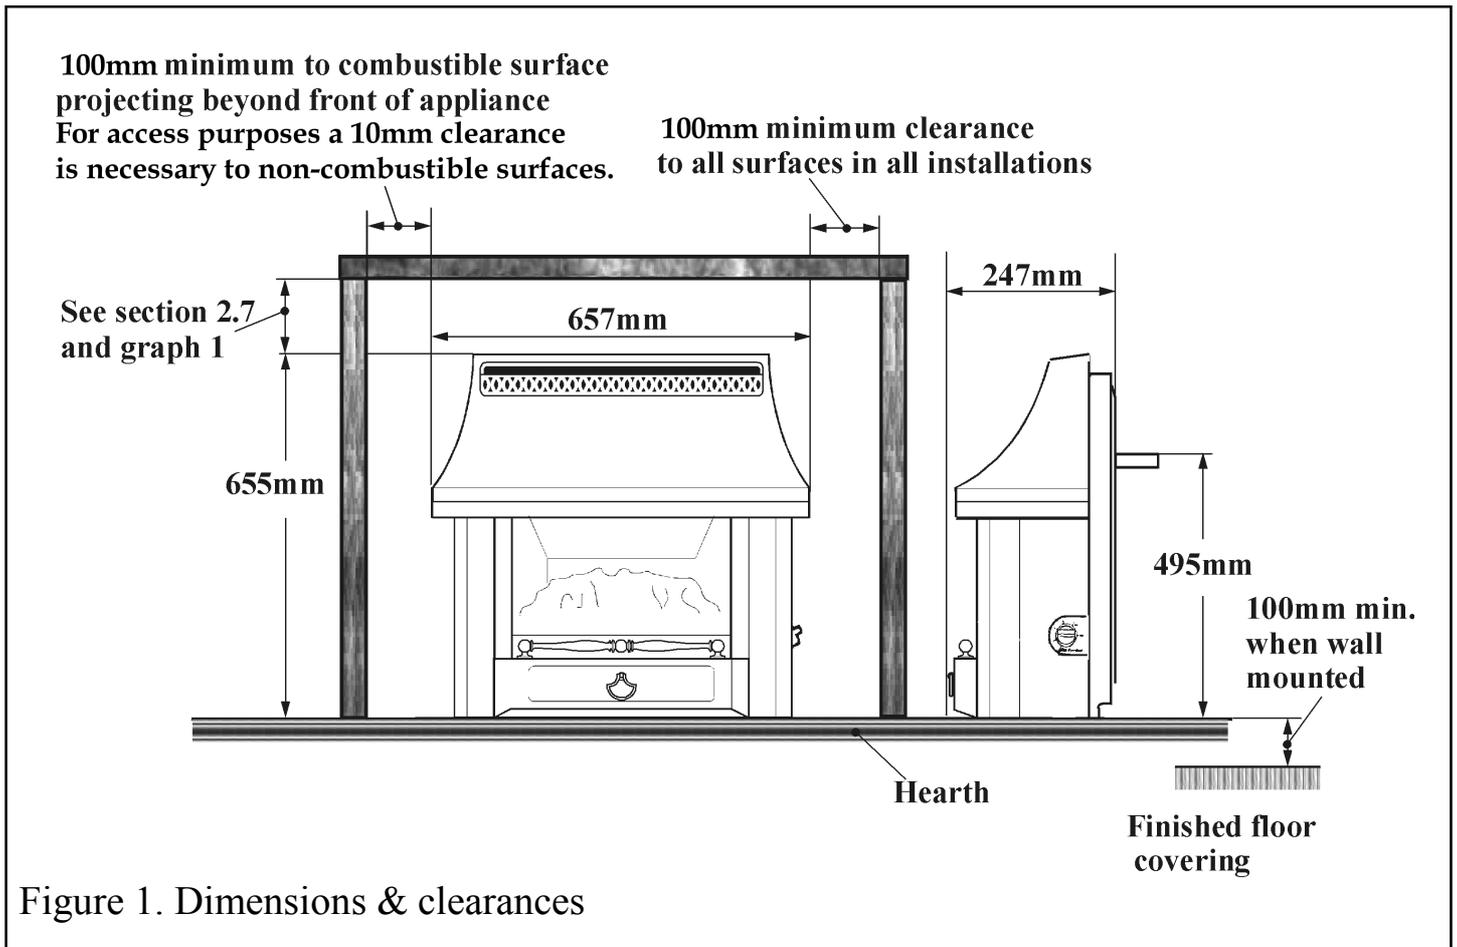
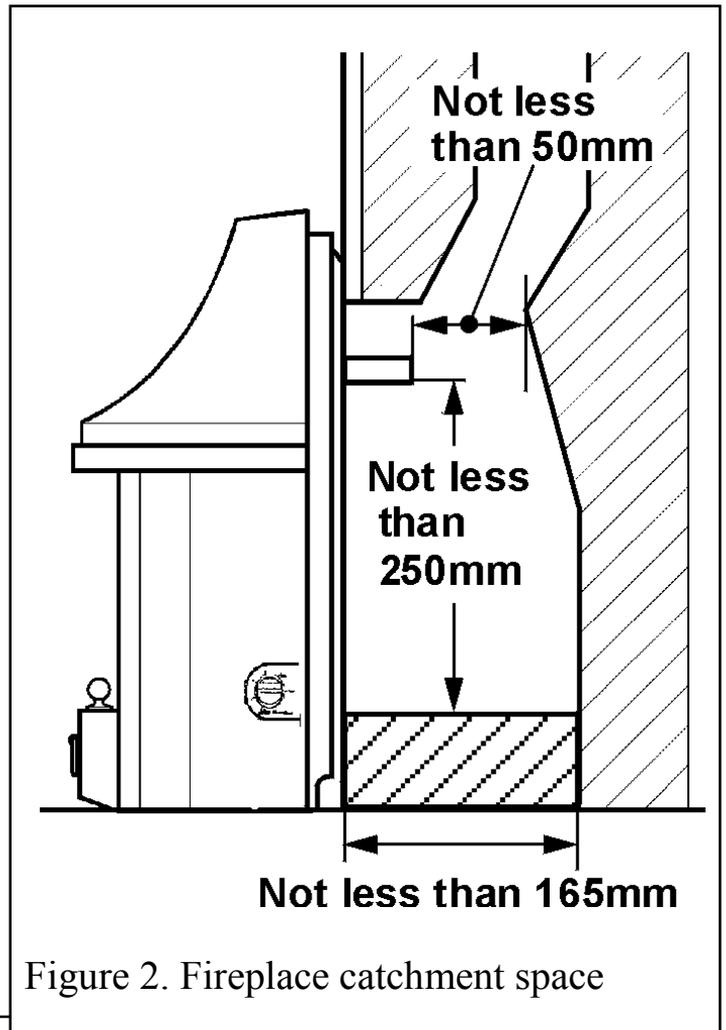

Figure 1. Dimensions & clearances
Figure 2. Fireplaces catchment space
See figure 1.
**2.8** The minimum height required from the top surface of the appliance case to the underside of any shelf made from wood or other combustible materials (see figure 1) is shown in graph 1.
The bottom of the appliance must be at least 100mm above the finished floor covering. See figure 1. This requires the top of the opening to be at least 650mm above the finished floor covering. Any opening visible below the appliance may be closed in but the depth of the catchment space within the wall opening must be as shown in figure 2.
There must also be a minimum clearance of 165mm between the back of the closure plate and the back of the catchment space. The catchment space below the flue spigot must extend at least 250mm downwards measured from the bottom of the flue spigot. See figure 2.
3.3.11 If the fire is fitted to a recessed fireplace, an extension flue spigot up to a maximum total length of 125mm may be used. The extension must be a tight fit over the flue spigot and be secured by two self tapping screws. Note the minimum clearance required as shown in figure 2.